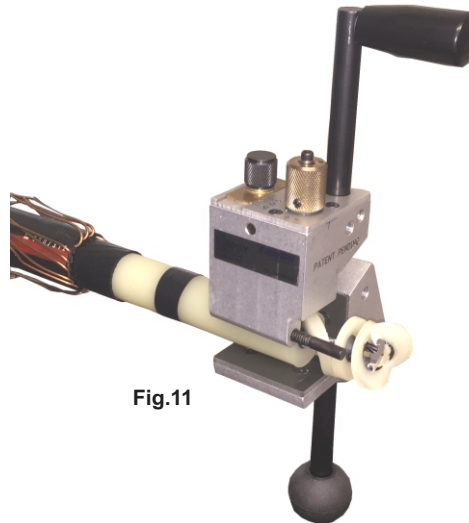

Fig.11
- 6. Start the cut.** Rotate the tool around the cable to start the cut. (Fig.11)